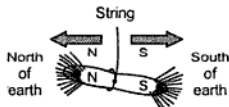

Fig. 3.2 Freely suspended
The pole which adjusts itself in the direction of North is called North seeking or **North (N) pole**, while the pole which points in the direction of South is called South seeking or **South (S) pole**. Such freely suspended magnet is shown in the Fig. 3.2.